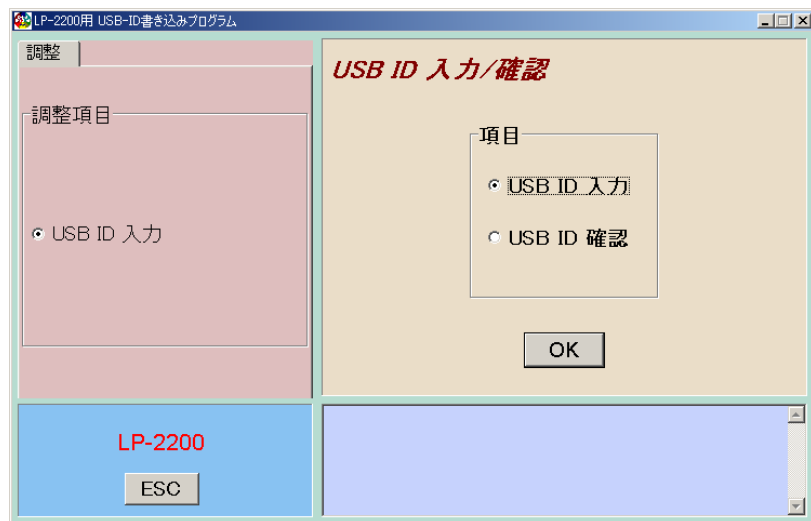

Figure 5-2. USB ID Input Window (1)
3. When the window as shown in Figure 5-2 is displayed, check “USB ID input” and click the OK button.